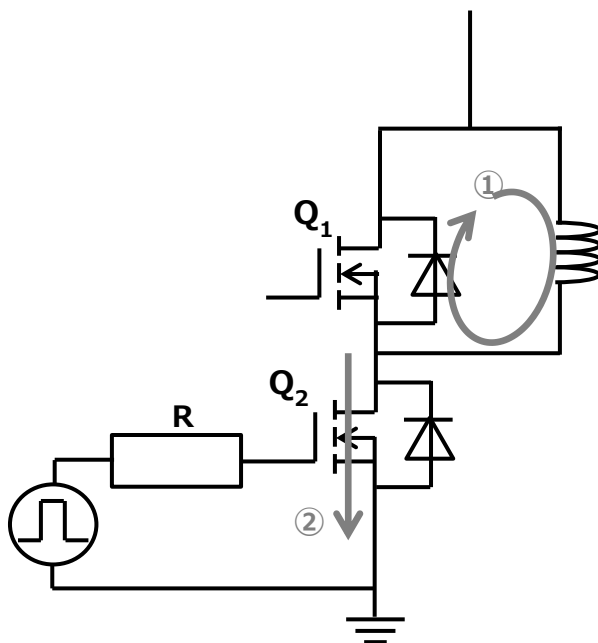
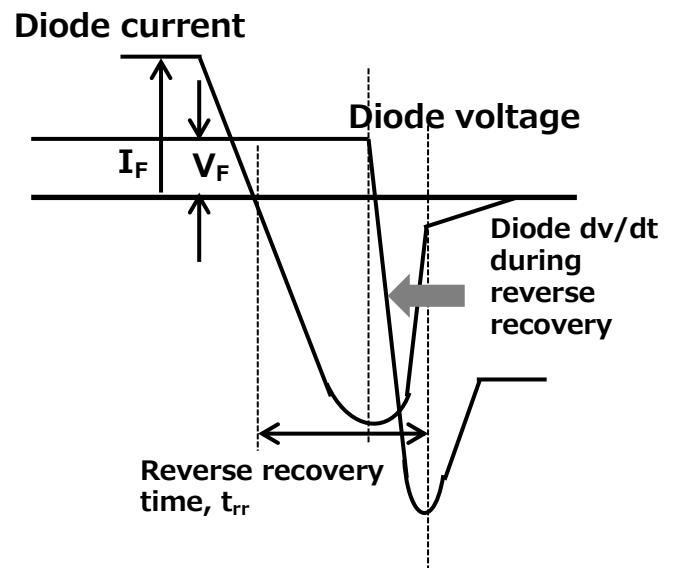

Figure 1.3 Switching of the upper and lower MOSFETs
Figure 1.4 Diode reverse recovery waveforms
Suppose that an inductor current is flowing through the MOSFET Q_2 in Figure 1.3 and that Q_2 then turns off. When Q_2 turns off, the inductor current flows back through the body diode of Q_1 as a freewheel current I_F , shown by ① in Figure 1.3. At this time, the MOSFET Q_1 has a voltage equal to the forward voltage V_F across the body diode.
Next, when Q_2 turns on again, the current starts flowing through Q_2 as shown by ② in Figure 1.3, and the body diode of Q_1 enters reverse recovery, causing its drain-source voltage to rise sharply. The rate of change of the drain-source voltage equals the dv/dt rate of the body diode during reverse recovery. Figure 1.4 shows the waveforms of the body diode current and voltage.